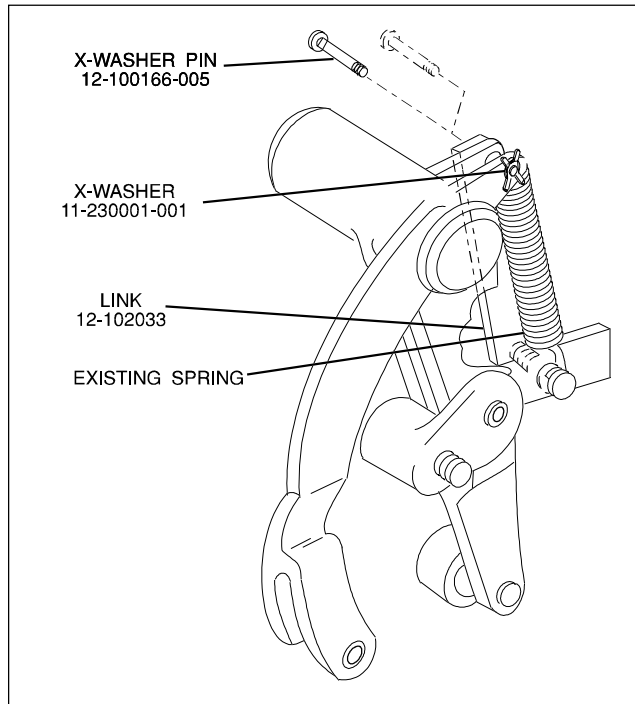

Figure 14. Older Cast Reset Lever Modifications
On older pinsetters with the cast reset lever (part no 12-100251-000 now obsolete): (See Figure 14)
- Install the included link (part no. 12-102033-000), "x" washer pin (part no. 12-100166-005), "X" washer (part no. 11-230001-001) and existing spring (part no. 12-100149-000) as shown in Figure 14.